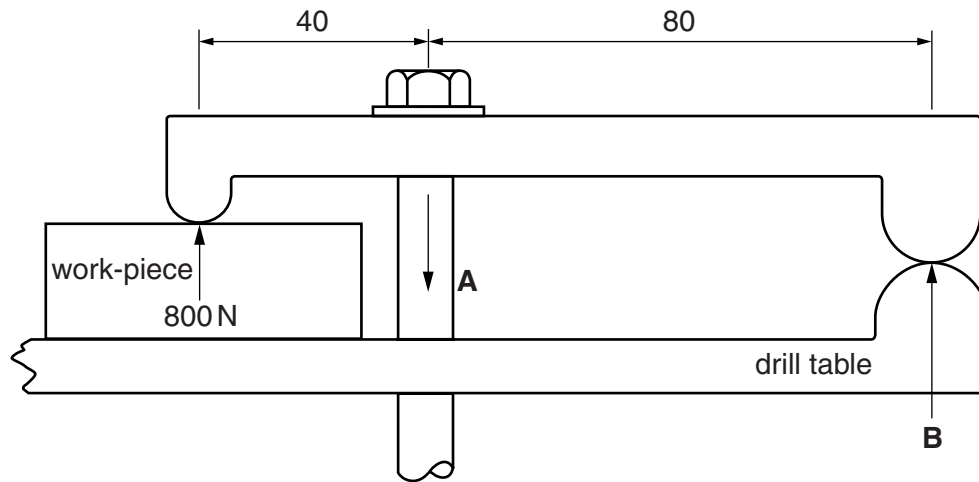

Fig. 3
- 4 Fig. 3 shows a clamping device, used to hold work on a drilling machine.